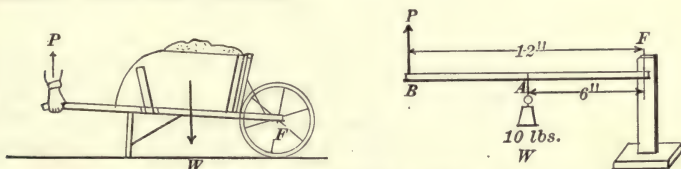

FIG. 10. — One-arm levers.
19. One-arm lever. When the fulcrum is located at one end of the lever, as in figure 10, the same principle is involved. There are two tendencies which must balance, the tendency of the weight to tip the lever down and the tendency of the pull applied to the lever to lift it up. The weight multiplied by the perpendicular distance from the fulcrum to its line of action measures its turning effect about the fulcrum; that is, its tendency to tip the lever down. This must be balanced by an equal turning effect in the opposite direction, namely, the upward pull multiplied by its distance from the fulcrum.
Suppose we fasten a stick (Fig. 10) by a screw (F) to an upright support, so that the stick is free to turn, and hang a weight (W), say 10
6. The handles of a wheelbarrow (Fig. 10) are 4 feet 6 inches from the axle, and the load of 200 pounds can be considered as 18 inches from the axle. How much effort must be exerted to raise the handles?